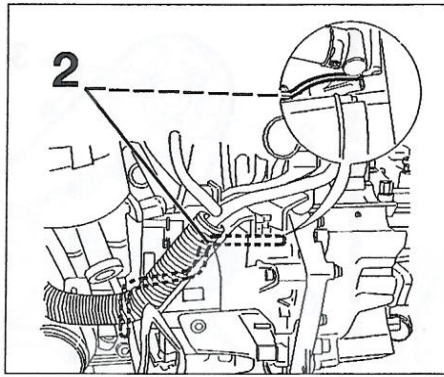

FIGURA 1-7
- motor DW10: PSA C. 0188. Y (figura 1-7).